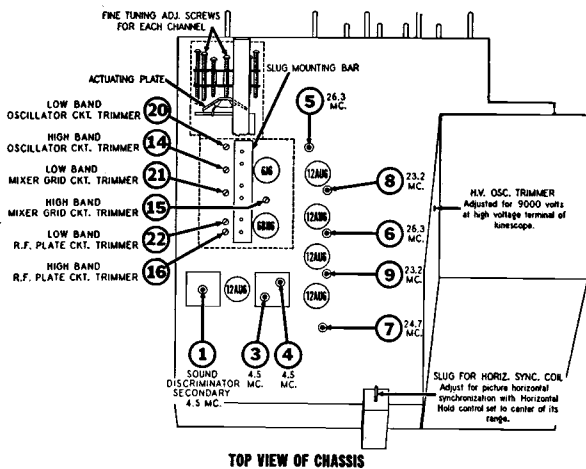

FIG. 5
4. A special aligning tool, designed to fit the stems on adjustable cores in the sound take-off transformer, as well as the other IF coils (see points 3, 4, 5, 6, 7, 8 and 9 in Figs. 5 and 6) is available and may be obtained from Stewart-Warner by requesting Alignment Tool Kit #507475. This kit also contains three tools required to position the slugs in the RF tuner assembly.
5. A special aligning tool, designed to fit the stems on adjustable cores of the IF coils (see points 5, 6, 7, 8 and 9 in Fig. 5), is available and may be obtained from Stewart-Warner by requesting Alignment Tool Kit #507475. This kit also contains three tools required to position the slugs in the RF tuner assembly.
The actuating plate of the tuner mechanism (see Fig. 5) should now be pressed back against its mechanical stop so that the slugs are withdrawn from the coil forms as far as possible. Then, rotate the aligning tool clockwise so that it turns the slug in its support bar. By continuing to rotate the slug in a clockwise direction, a position will be reached where the slug disengages from the aligning tool and this automatically determines the correct setting.
After the tuning slugs have been positioned as described in step #3 at the head of this chart, leave Channel Selector set to channel #12. The fine tuning screw in the Channel Selector Mechanism (see Fig. 5) must now be correctly positioned.
Turn this screw clockwise until tuner actuating plate (shown in Fig. 5) has moved back as far as it will go and presses against its mechanical stop—do not force screw beyond this point. Then, back off the fine tuning screw by rotating it counter-clockwise 3 full turns.
After the tuning slugs have been positioned as described in step #3 at the head of this chart, leave Channel Selector set to channel #6. The fine tuning screw in the Channel Selector Mechanism (see Fig. 5) must now be correctly positioned.
Turn this screw clockwise until tuner actuating plate (shown in Fig. 5) has moved back as far as it will go and presses against its mechanical stop—do not force screw beyond this point. Then, back off the fine tuning screw by rotating it counter-clockwise 1 full turn.